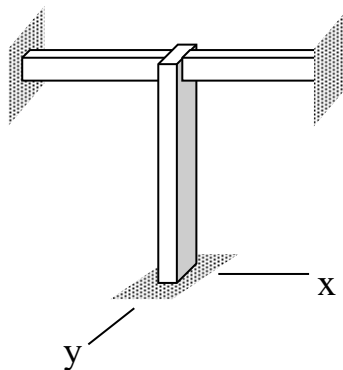

**Figure 9/Rajah 9**
- [b] A stepped shaft  $ABCD$  is subjected to three torques with the magnitudes of 1500 Nm, 2000 Nm and 3000 Nm at A, B and C, respectively as shown in **Figure 9**. End D is fixed and the material is steel with shear modulus of elasticity  $G = 80$  GPa. Calculate the maximum shear stress in the shaft and the angle of twist at end A if the shaft  $ABCD$  is